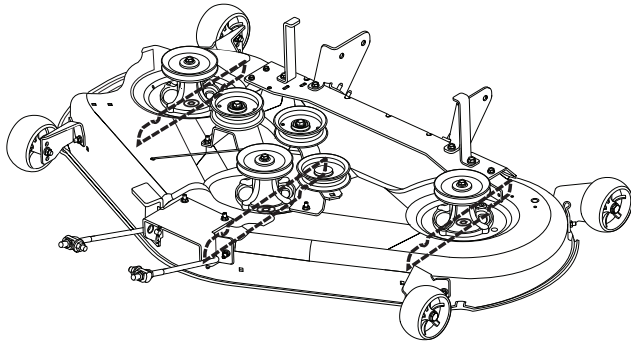

Figure 38. Orient Blades Front-to-Back
1. Turn the blades front-to-back as shown in Figure 38. Measure the distance from the ground to front tip of center blade, and from ground to rear tips of left hand and right hand blades (see Figure 38). Front tips should be 1/8"-1/4" (3-6 mm) higher than rear tips. If not, proceed to Step 2.